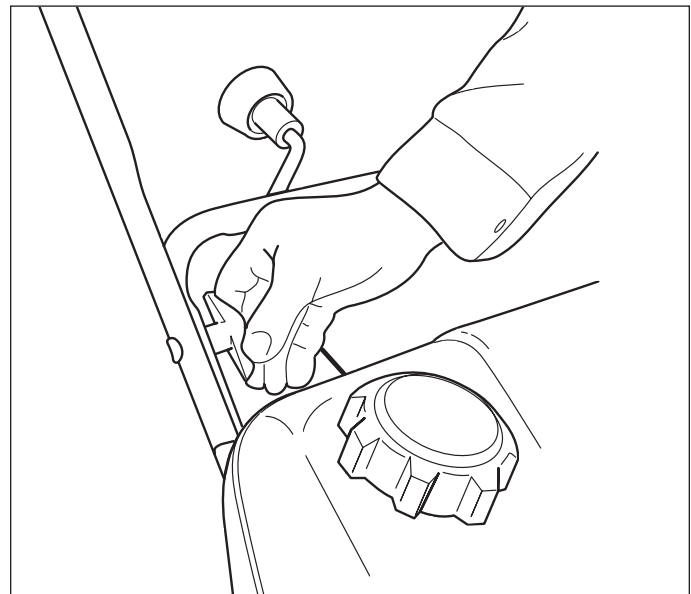

Figure 2. Lift Handles and T-Knobs
1. Lift up folding handle to align it with lower handle and tighten the t-knobs securely as shown in Figure 2.